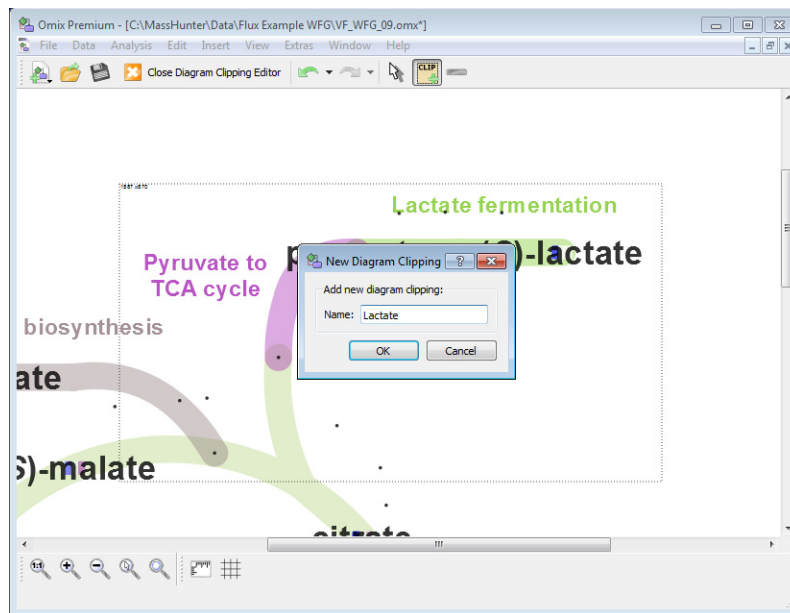

Figure 144 Diagram Clipping Editor
- Type in a name for the clipping region you have defined in the **New Diagram Clipping** dialog box (Figure 144).